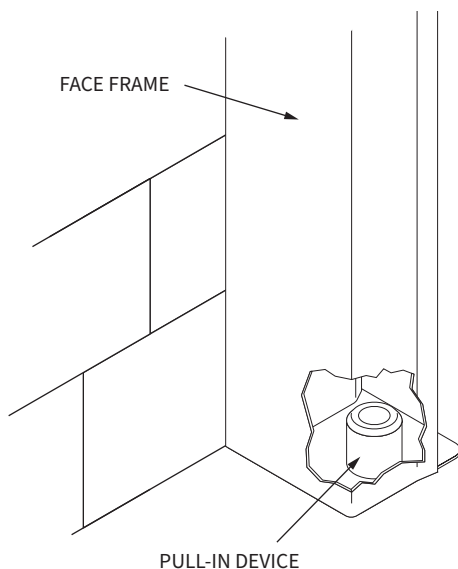

Figure 15: Pull-In Device
5. Add or remove shims (washers) located behind the nylon guide to adjust the desired “pull-in” on the leading edge of panel (Figure 15). More shims will increase the amount that the gasket will contact the face frame resulting in a tighter seal. It should also be noted that increased gasket pressure will reduce the gasket life and make it more difficult to manually open the door.